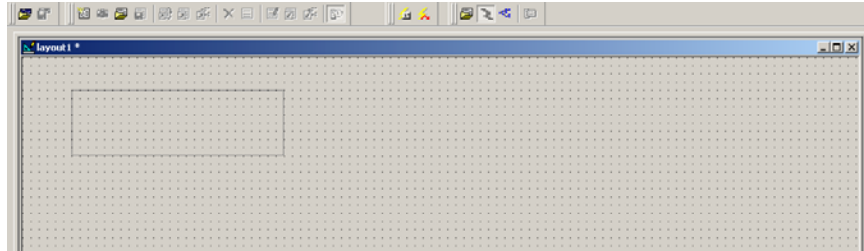

Figure 2.11: Selecting Slider Bar from Visual Instruments and drawing
- The cursor changes into a square target. Click and hold the mouse while dragging a rectangular shape in the Layout1 window (see Fig. 2.11).